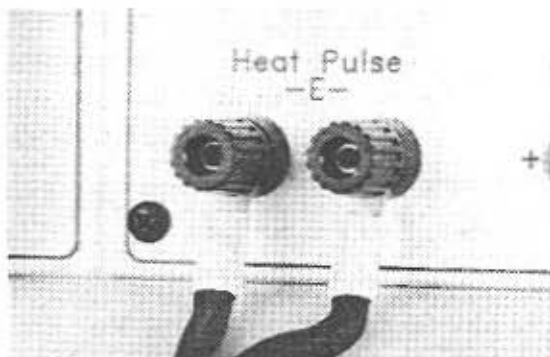

FIGURE 5. UNIVERSAL CORD CONNECTION
- attach the Universal Cord to the Heat Pulse AC Outputs (refer to Figure 5),